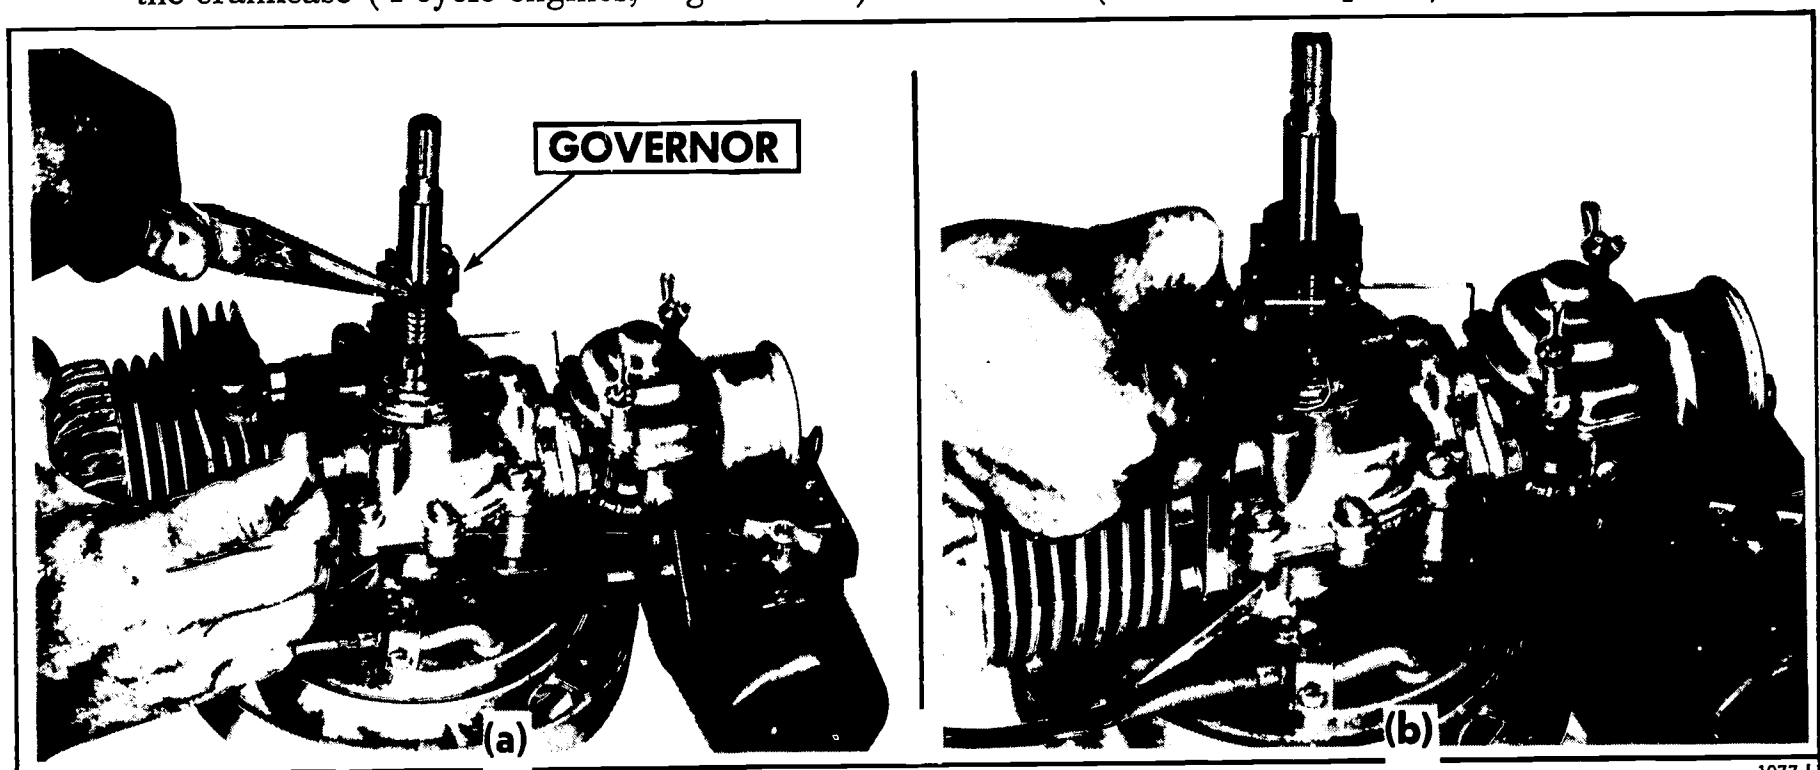

FIGURE 295. Governor attached directly to the crankshaft of a 2-cycle engine.
- **Providing power for the speed-control governor** on some engines (Figure 295).